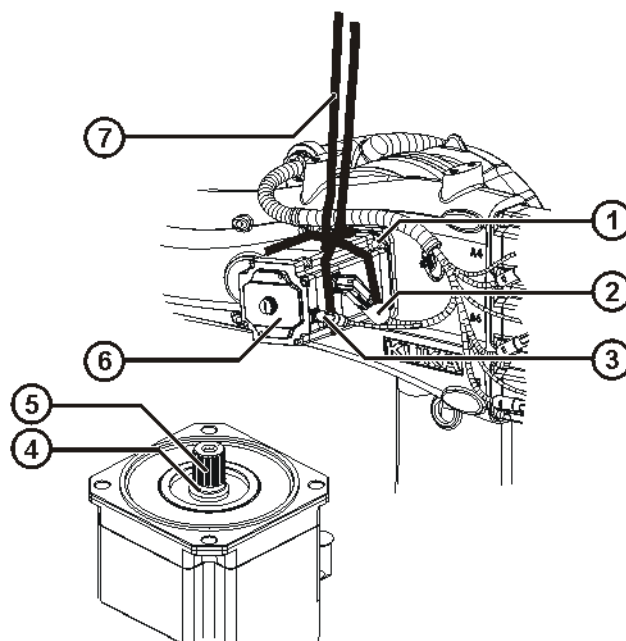

Fig. 10-8: Installing motor A3
2. Clean the tothing of motor A3 and gear unit before installation and apply a thin but continuous coat of Microlube GL 261 grease (>>> Fig. 10-8 ).